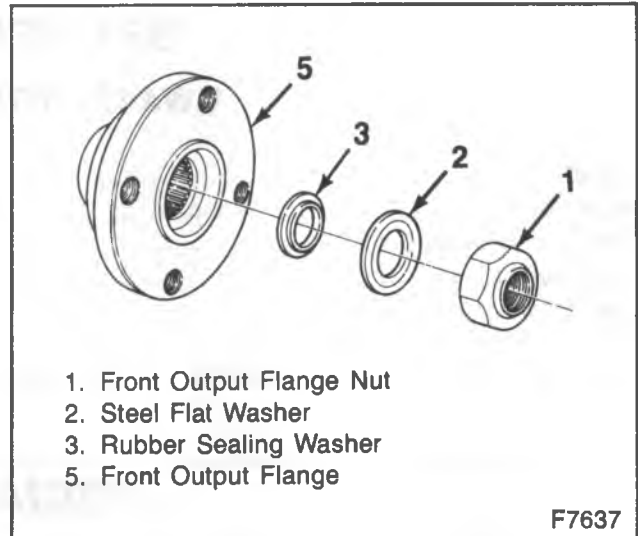

Figure 23—Installing the Output Flange Assembly
18. Front cover (11) and front cover bolts (9) to the rear case half (10).
- Front cover bolts (9) to 47 N·m (35 ft.lbs.).
- 19. Front output shaft oil seal (31) to the front cover (11) using J 37668 Seal Installer.
- 20. Input shaft oil seal (32) using J 38216 Seal Installer.
- 21. Front output flange (5) to the front output shaft (4) (Figure 23).
- 22. Rubber sealing washer (3), steel flat washer (2) and a new front output flange nut (1).
- Front output flange nut (1) to 108 N·m (80 ft.lbs.).